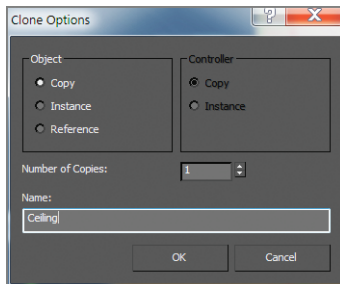

FIGURE 3.17 The Clone
11. Let go of the mouse; a Clone Options dialog box will appear, as shown in Figure 3.17.